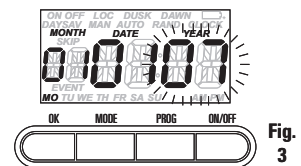

Fig. 3
5. Press the **OK** button to set the minutes. **MONTH**, **DATE** and **YEAR** will show in the mode display area, with the digits under **YEAR** flashing (Fig. 3).